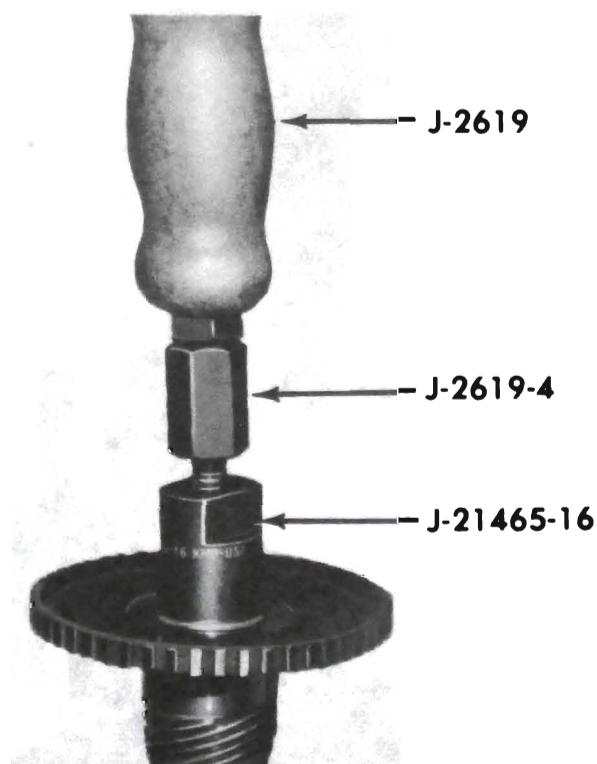

Figure 76-121
a. Thread Tool J-21465-16 into bushing using Slide Hammer J-2619, remove. See Figure 76-121.